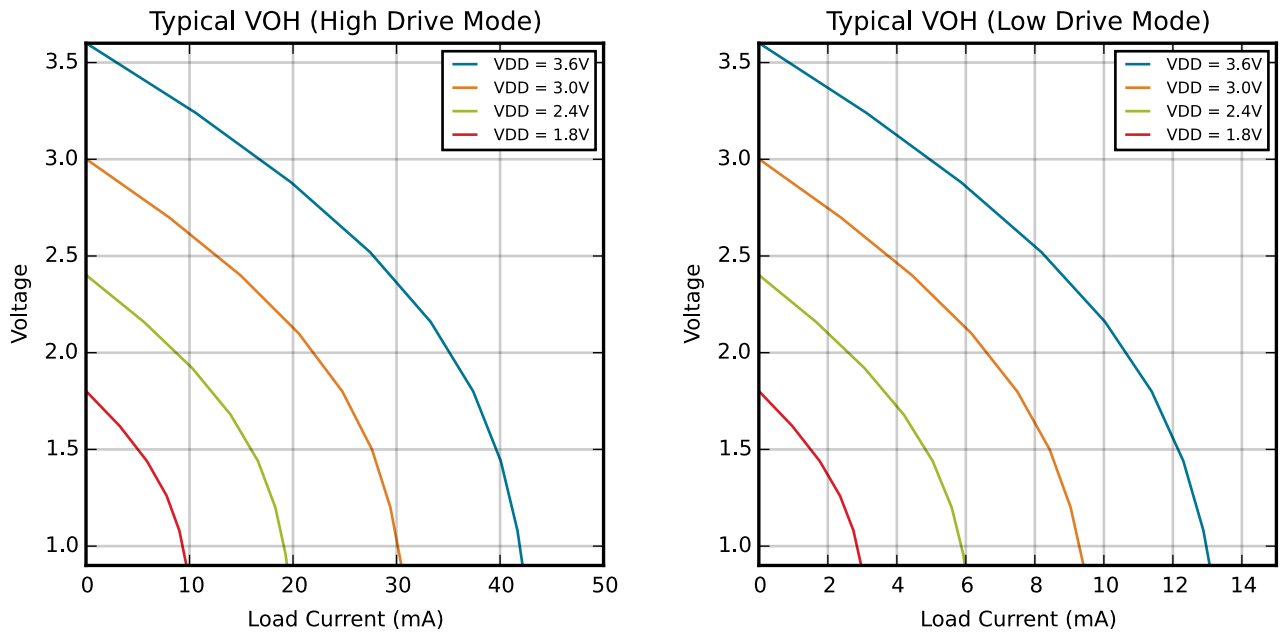
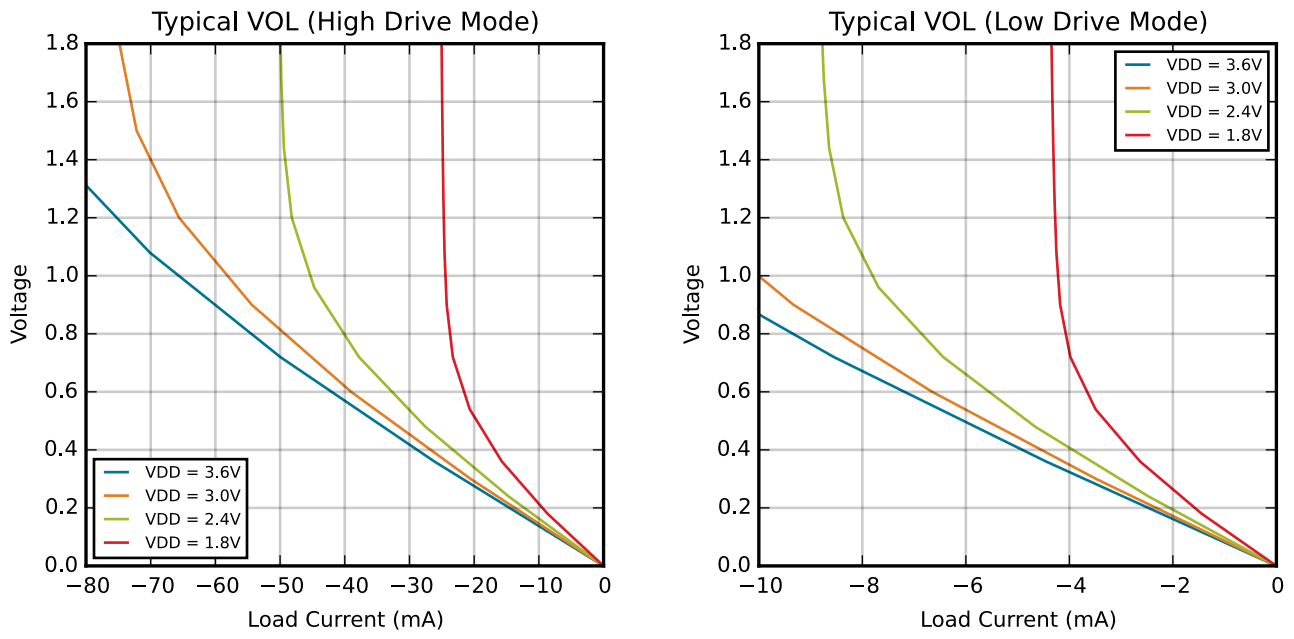

Figure 4.3. Typical VOH Curves
Figure 4.4. Typical  $V_{OL}$  Curves
1. See Figure 4.3 Typical VOH Curves on page 29 and Figure 4.4 Typical VOL Curves on page 30 for more information.